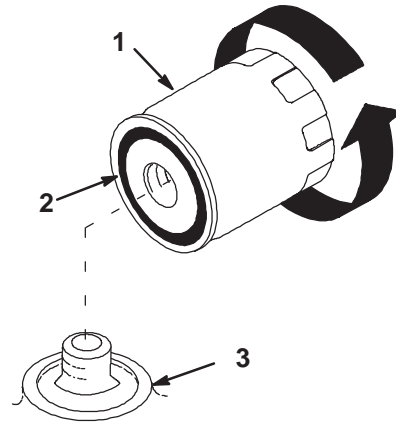

Figure 33
2. Remove the old filter and wipe the filter adapter (Fig. 33) gasket surface.
3. Apply a thin coat of clean oil to the rubber gasket on the replacement filter (Fig. 33).
4. Install the replacement oil filter to the filter adapter. Turn the oil filter clockwise until the rubber gasket contacts the filter adapter, then tighten the filter an additional 2/3 to 1 turn (Fig. 33).